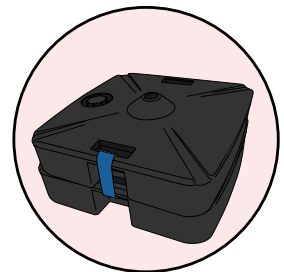

Fig 6.
6. Pull the strapping tight and close the clip ensuring that it sits inside the gap on the handles. Tuck the excess strap into the handle recess or trim off. (see fig 6)